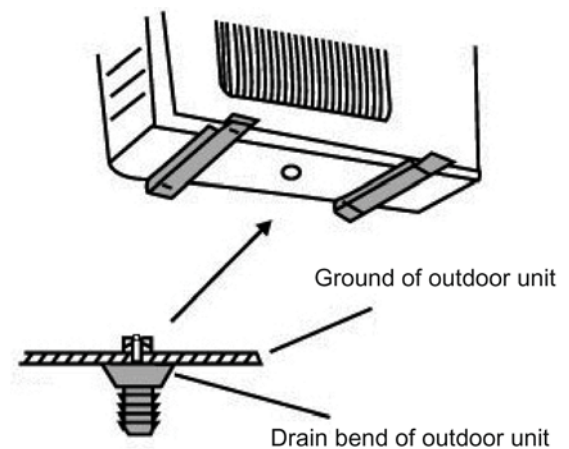

Fig. 24
**Installation:** Install the outdoor drain bend in the  $\varnothing$  25 mm hole foreseen on the base (fig. 24), and connect the flexible drain pipe to the bend in order to drain the water accumulated in the outdoor unit. It's advised to carry the water in a proper rain water collection well, to avoid the formation of puddles or ice blocks on the ground.